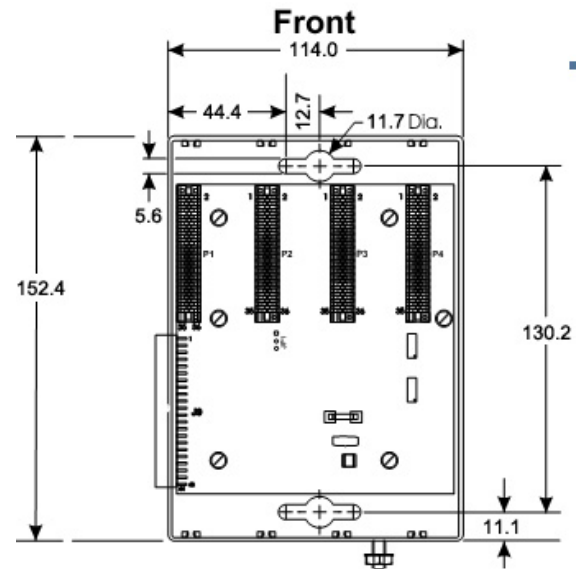

Figure 3. ControlWave Micro 4-Slot Expansion Housing Dimensions (in millimeters)
- **Expansion housing.** Position the expansion housing to the right of the base housing and locate mounting holes using the expansion housing as a template (see *Figure 3* for dimensions).